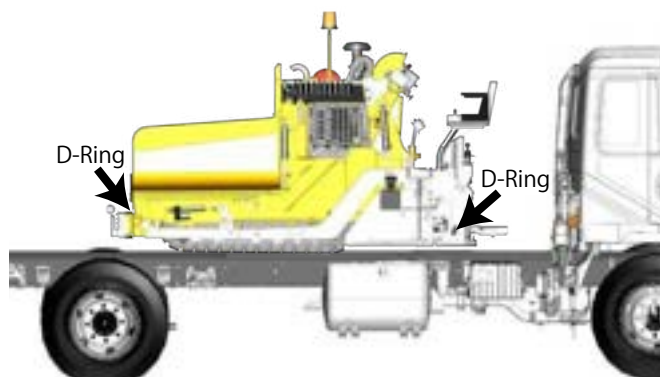

Figure 4-61. Tie-Down D-Ring Locations
2. Attach tie-down chains to the front weight block and the D-Rings in front of the torque hubs. **(Figure 4-61).**